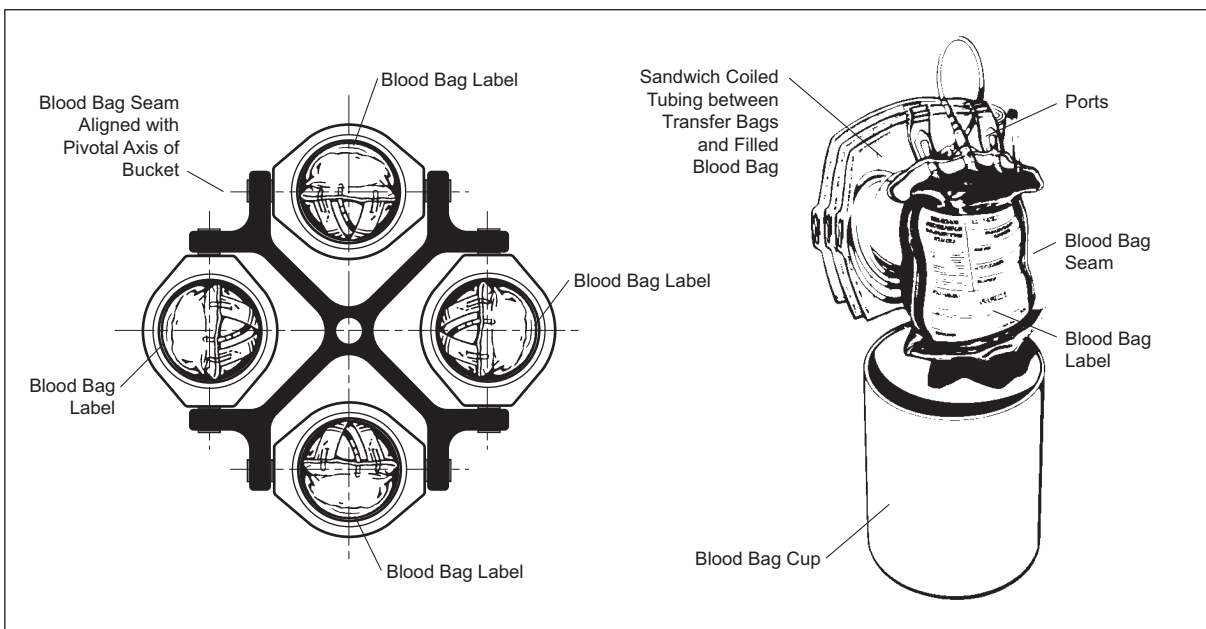

Figure 5-3. Typical Blood Bag Loading Procedure (JS-4.3 Rotor Shown)
2. Sandwich the tubing between the blood bag and any transfer packs (see Figure 5-3).